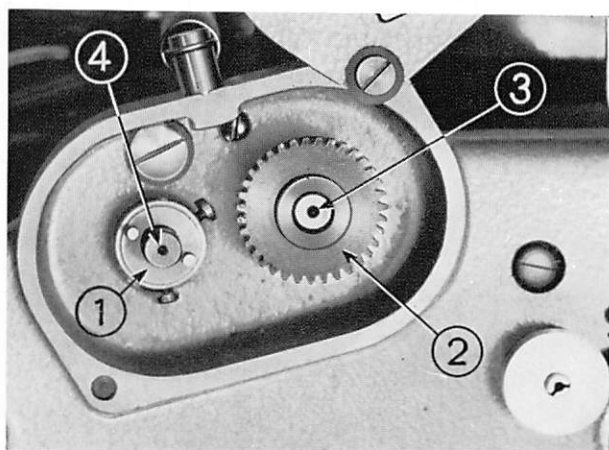

Fig. 22
When the number of stitches are desired to be changed, change the gear ② Fig. 22. All the spur gears have alphabet marks such as A, B, C etc. or numbers such as 123, 152 etc. branded on them. The alphabets show the pairing number of each gear, so be sure to interlock the same alphabet gears. The figures branded on the gear ② Fig. 22, which is on the rear side, indicate the number of stitches required.
When installing the gear, insert the pin holes firmly into the 2 pins of the spur gear bushing ①, Fig. 22.
As the shaft ③ and the shaft ④ (Fig. 22) rotate freely to opposite directions, respectively, insert the gear into the shaft and after interlocking, rotate the gear by pressing it downwards and it will go in easily.